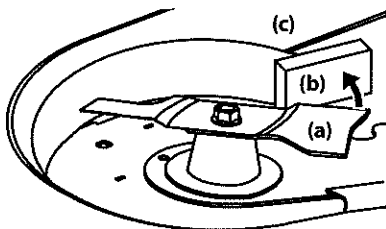

Figure 35
3. Wrap a rag around one end of the blade (a) and grasp it to prevent it from turning, or secure the blade (a) by placing a block of wood (b) between the blade (a) and the deck housing (c). See Figure 35.